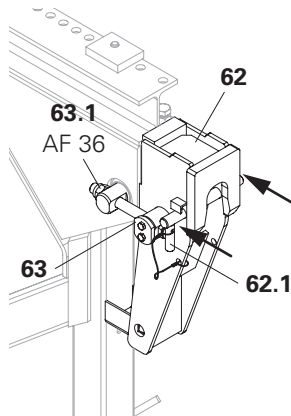

Fig. F2.04
5. Secure the Suspension Shoe SB (**62**) to the brace frame with bolts. (Fig. F2.04)